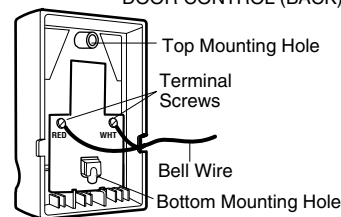

Figure 4 REMOVE COVER
2. Remove white cover by gently prying on a side corner near the top of the cover with a small flat head screwdriver (Figure 4). Fasten with 6ABx1-1/4" self-tapping screws (drywall installation) or 6-32x1" machine screws (into gang box) as follows: